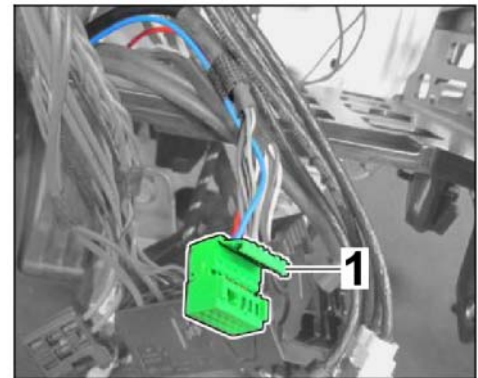

Figure 20
- 5.4.3 Open secondary lock ⇒ *Figure 20-1*- (⇒ *Figure 20-arrow*-).